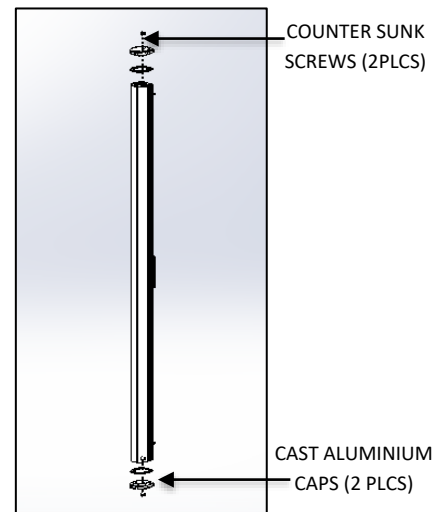

FIG. 16 – FINAL ASSEMBLY
10. Reattach the CAST ALUMINIUM CAPS and secure with the COUNTER SUNK SCREWS provided as shown in FIG.16.